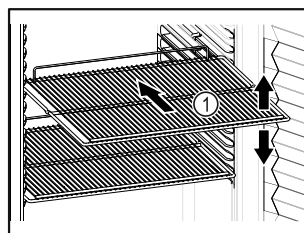

Fig. 65 Example illustration
- ❑ If there are adjustable shelves Fig. 65 (1), position them as required.